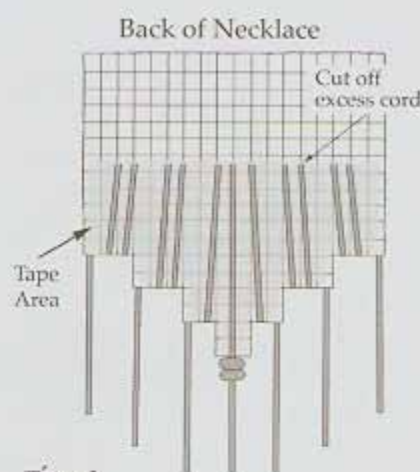

Fig. 9
16. Bring Cords # 2, 3, 5, 6, 8, 11, 13, 14, 16, 17, and one of the center cords to the back as if you were making a hem. Position them so that none of these cords are visible from the front and hold them in place by sticking them to the tape (see Figure 9).